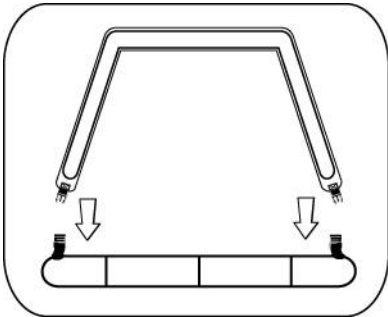

**FIGURE 7**
1. Retrieve canopy kit bag. It is tethered to liferaft and may be either floating in water or still in raft valise. Open kit bag and remove contents (See Figure 7).